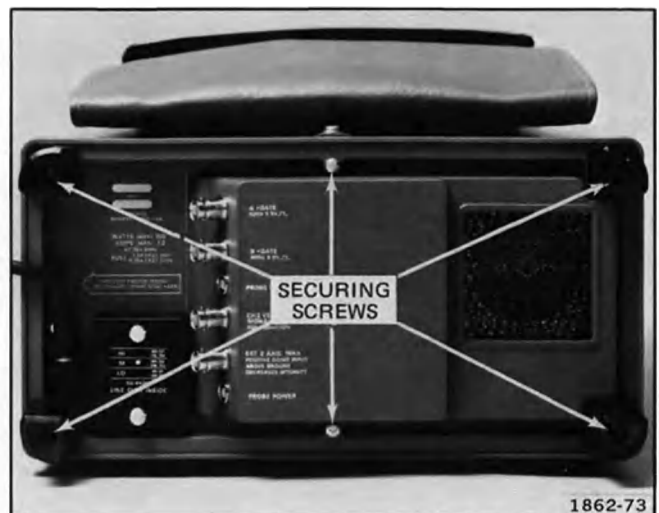

Fig. 5-1. Typical Rear Cabinet Frame Removal.
3. Remove the six screws indicated in Figure 5-1 and remove the instrument feet and rear cabinet assembly from the instrument.